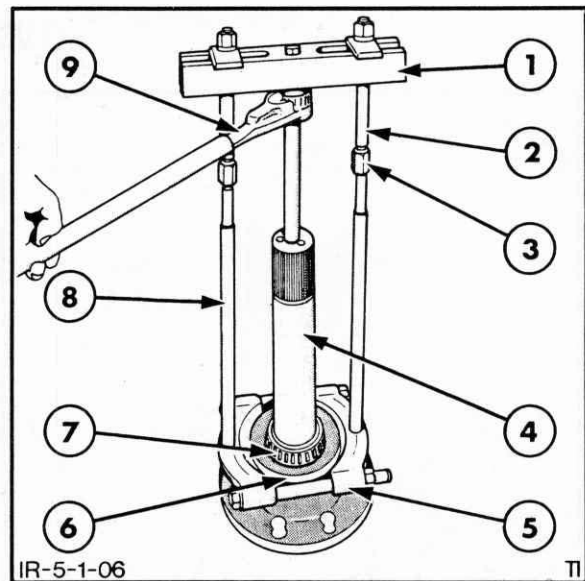

Figure 5-6
2. If necessary remove the axle shaft cone and roller assembly, seal and seal retainer using Tool #P61, 952, 938, 930B, 930E and 924, or Tool #9162, 9526, 9506, 9521, 9207 and 9537, Figure 5-6.